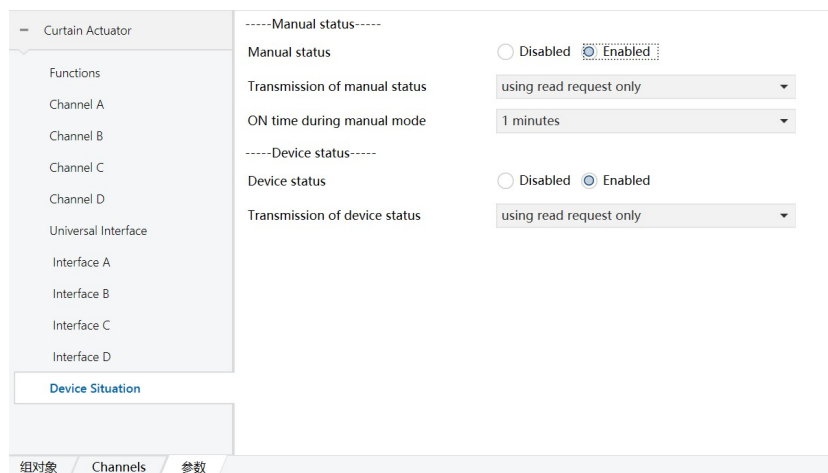

Figure 6.3.1
1) Click "Device Situation", parameter in Figure 6.3.1 will show: